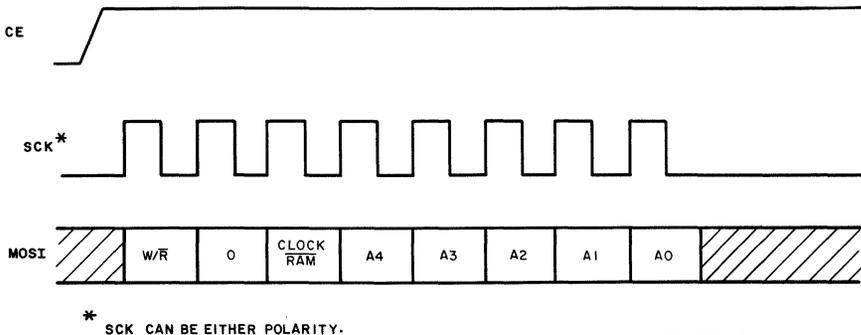

Fig. 9 - Address/Control byte-transfer waveforms.
1. Address Control - Fig. 9
### ADDRESS/CONTROL BYTE - Fig. 9